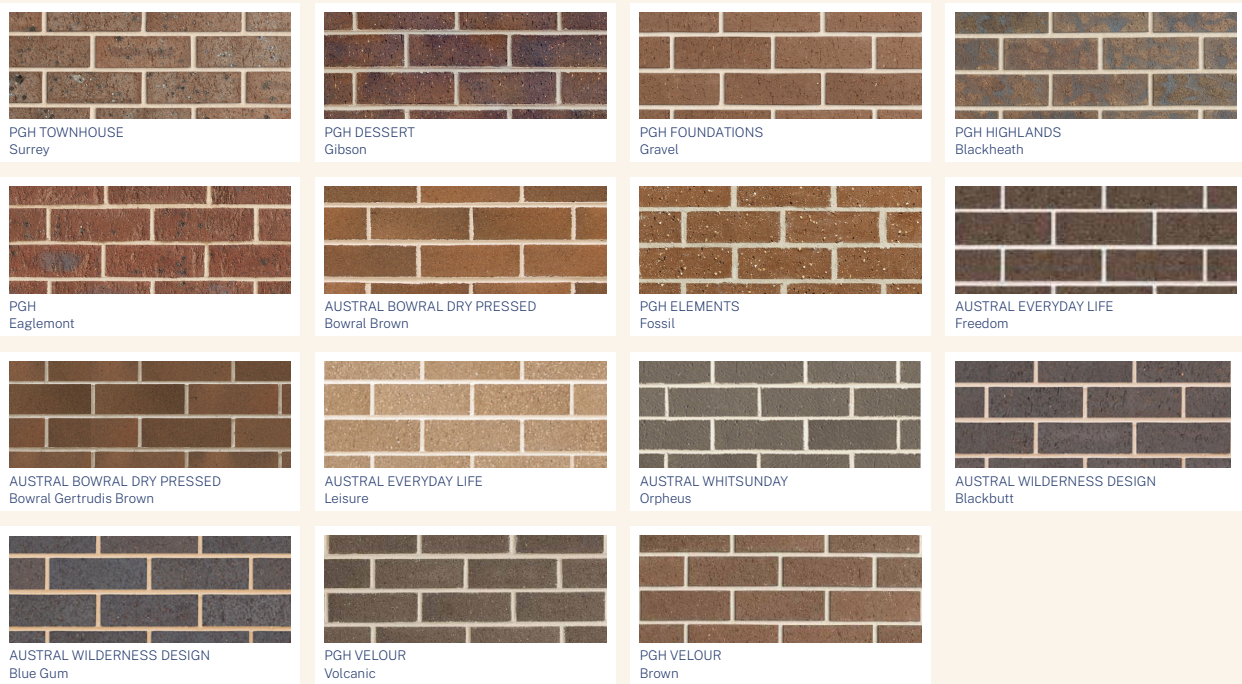

Figure 1 – Brick Colours
- Brickwork on the ground storey may be rendered. In instances where the brickwork is not rendered, brick colours are permitted as per figure 1. Painted or bagged brickwork is not accepted. Alternative finishes such as white-wash may be accepted based on design merit and subject to approval from the DRP.
- Fibrous Cement (FC) sheeting with battens is not permitted.